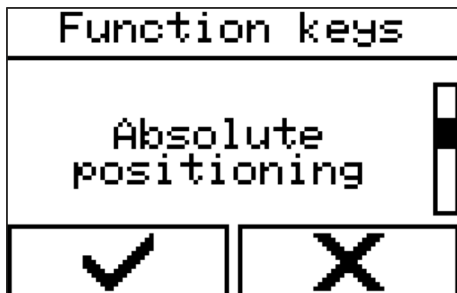

Fig. 41: Selecting a menu
1. Select the menu via 'Hand switch' → 'Premium functions' → 'Settings of function keys' → 'Absolute positioning' (Fig. 41).